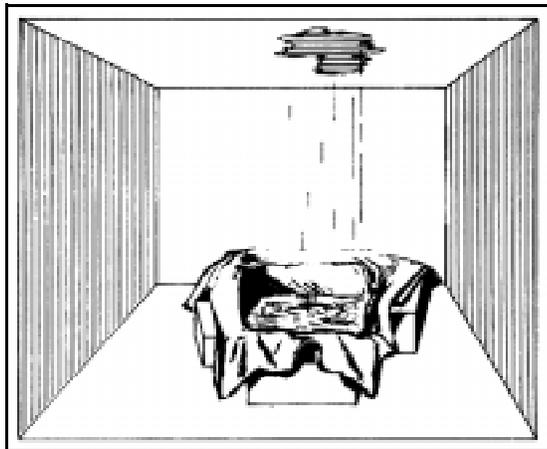

Figure 8-14. Catch basin
- Catch basin. To catch large amounts of water dripping through a floor or ceiling, use a salvage cover to construct a deep catch basin. Place furniture, boxes, or other items in a circle or square beneath the leak (Figure 8-14). Spread the salvage cover over the framework, tuck in the loose edges, and tie the cover to the items. To catch small amounts of water, use a salvage cover to construct a shallow basin. Roll two sides of the cover in about 5 feet. Roll the other sides in about 1 foot. Lift the corners in and tuck under to lock the corners.